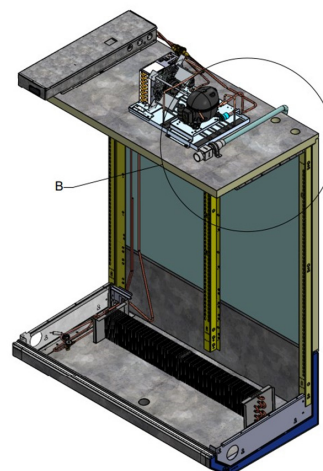

Fig. 28 Blower sub-assembly
3. With the cases 6' away from final position, high charge cases can now have the Leak Mitigation Blower Sub-system (Fig. 28) installed, allowing enough space for the drain to be assembled. The Leak Mitigation Blower Sub-system consists of the Blower sub-assembly and the Drain Adapter sub-assembly.